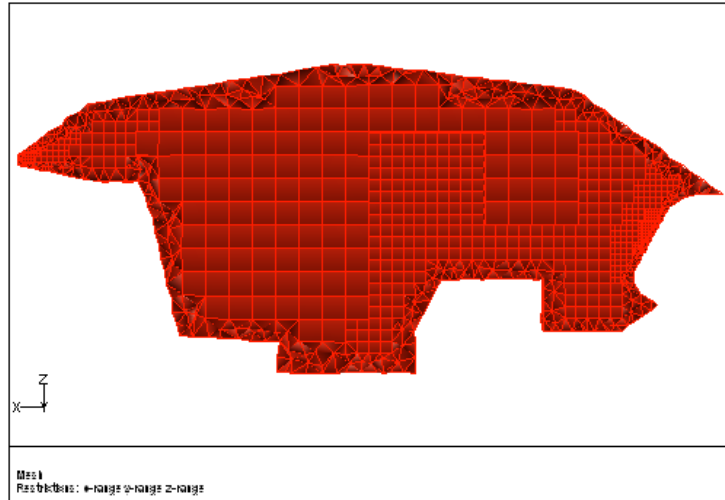

Figure 5.11: Slide of Cells at $y = 50$ for the Hexcore Mesh With Buffer Layers = 2
7. Display the slide of cells at $y = 50$ and $y = -525$ (Figures 5.11 and 5.12).